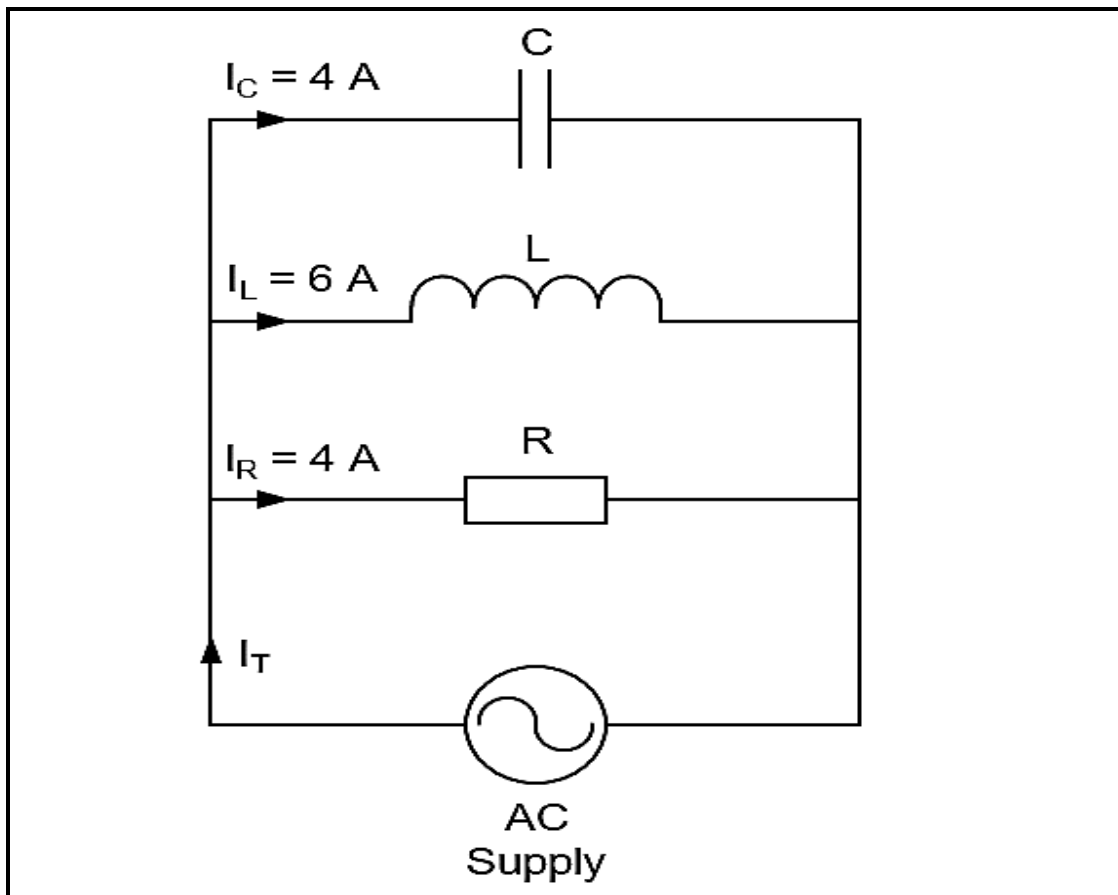

FIGURE 3.6: PARALLEL RLC CIRCUIT
3.6 Refer to FIGURE 3.6 below and answer the questions that follow.
3.6.3 Draw a labelled phasor diagram for FIGURE 3.6. (3)